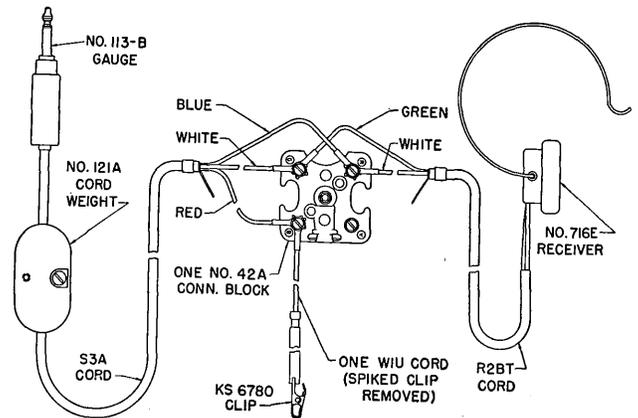

Fig. 2
- 2.04 Testing cord—Test Cord Assembly shown in Fig. 2 for testing jacks for cut-out by the D.C. click method. (To be made up locally).
- 2.05 Testing cord—Test Cord Assembly for testing jacks shown in Fig. 2, modified by replacing the R2BT cord by an M2CP cord. (Connect two No. 105 cord tips to the leads at the lamp socket end of the cord).
- 2.06 Testing cord—R2BT cord, shown in Fig. 2, equipped with a No. 716-E receiver (or equivalent), a No. 121-A cord weight and a No. 113-B Gauge.
3.31 Insert the No. 113-B gauge (2.05, Fig. 2 modified) into a multiple jack of the trunk. Connect the green conductor of the No. M2CP cord to the sleeve of the plug of an idle cord and the white conductor to the key cam of an operated cord circuit key.
3.32 Insert the other No. 113-B gauge (Fig. 2) of the receiver cord into another multiple jack of the trunk and note that a click is heard as the gauge is inserted. Rotate each gauge one revolution while listening in the receiver for clicks. If a click is heard it indicates that the jack cuts out.
3.36 Insert the No. 113-B gauge (Fig. 2) of the receiver cord into a multiple jack of the trunk. Note that a click is heard as the gauge is inserted.
- 3.40 Insert the 113-B gauge (Fig. 2) into the trunk jack to be tested. Note that a click is heard as the plug is inserted.
- 3.46 Insert the 113-B gauge (Fig. 2) into the INCPT jack and attach the gauge sleeve cord to the sleeve of another idle switchboard cord.
- 3.49 Insert the gauge (Fig. 2) into the TBL jack. Note that a click is heard as the plug is inserted.
- 3.54 Insert the No. 113-B gauge (Fig. 2) into the INCPT jack of the trunk. Note that a click is heard as the plug is inserted.
- 3.57 Attach the gauge sleeve cord clip to the sleeve of an idle switchboard cord. Insert the plug of the No. 113-B gauge (Fig. 2) into the TBL jack. Note that a click is heard as the plug is inserted.